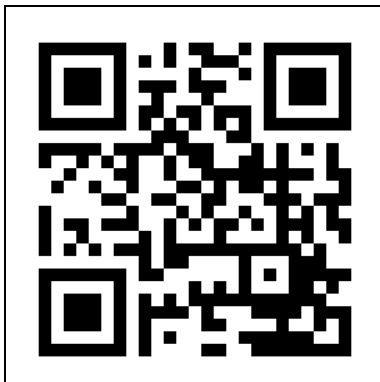

Figure 12
1. Open the Eurom Smart App manual with the QR code (Figure 12) or go to [www.eurom.nl/nl/manuals](http://www.eurom.nl/nl/manuals).